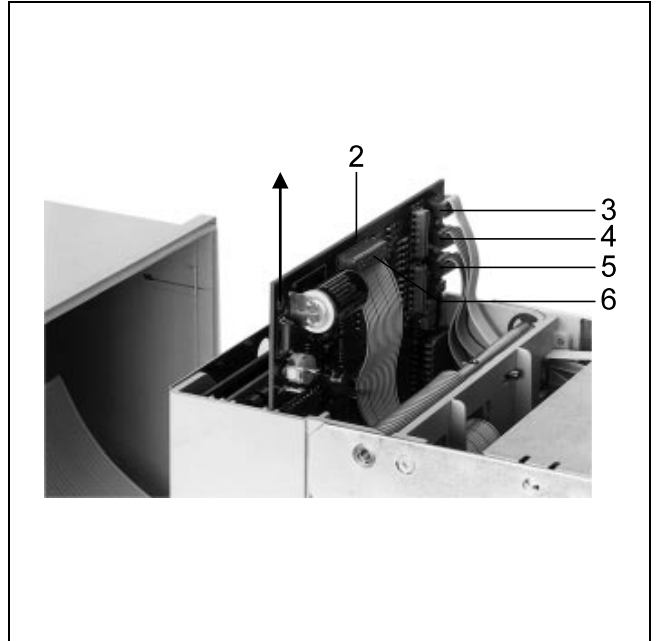

Fig. 22
- Carefully pull up the electronic card 2 and loosen cables 3, 4, 5 and 6 (see fig. 22).